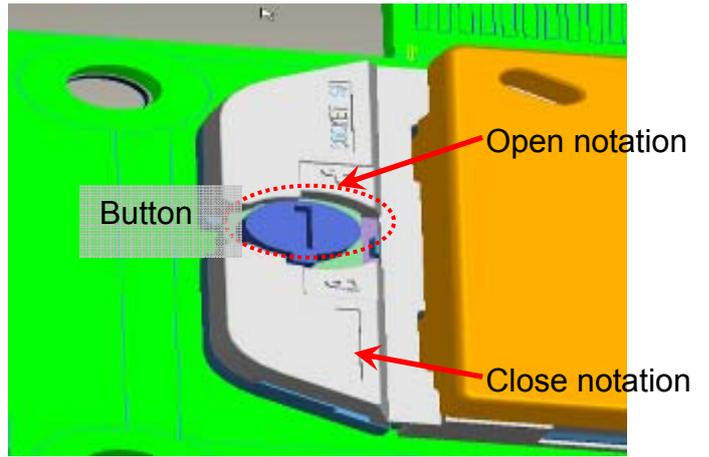

Fig. 8-4
- 8.3. Push DMD slightly and use screwdriver rotate clockwise button to lock (close notation) DMD on Chip B/D (Fig. 8-4).